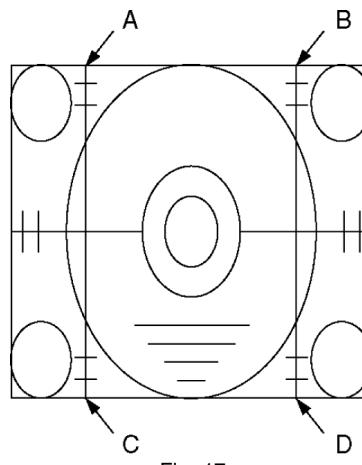

Fig. 17
3. Adjust V-AMP (75i / 4:3) so that B, D (Fig. 17) is  $2.1 \pm 0.1$ .
3. Adjust V-AMP (100i / 4:3) so that B, D (Fig. 17) is  $2.1 \pm 0.1$ .
3. Adjust V-AMP (50p / 4:3) so that B, D (Fig. 17) is  $2.1 \pm 0.1$ .